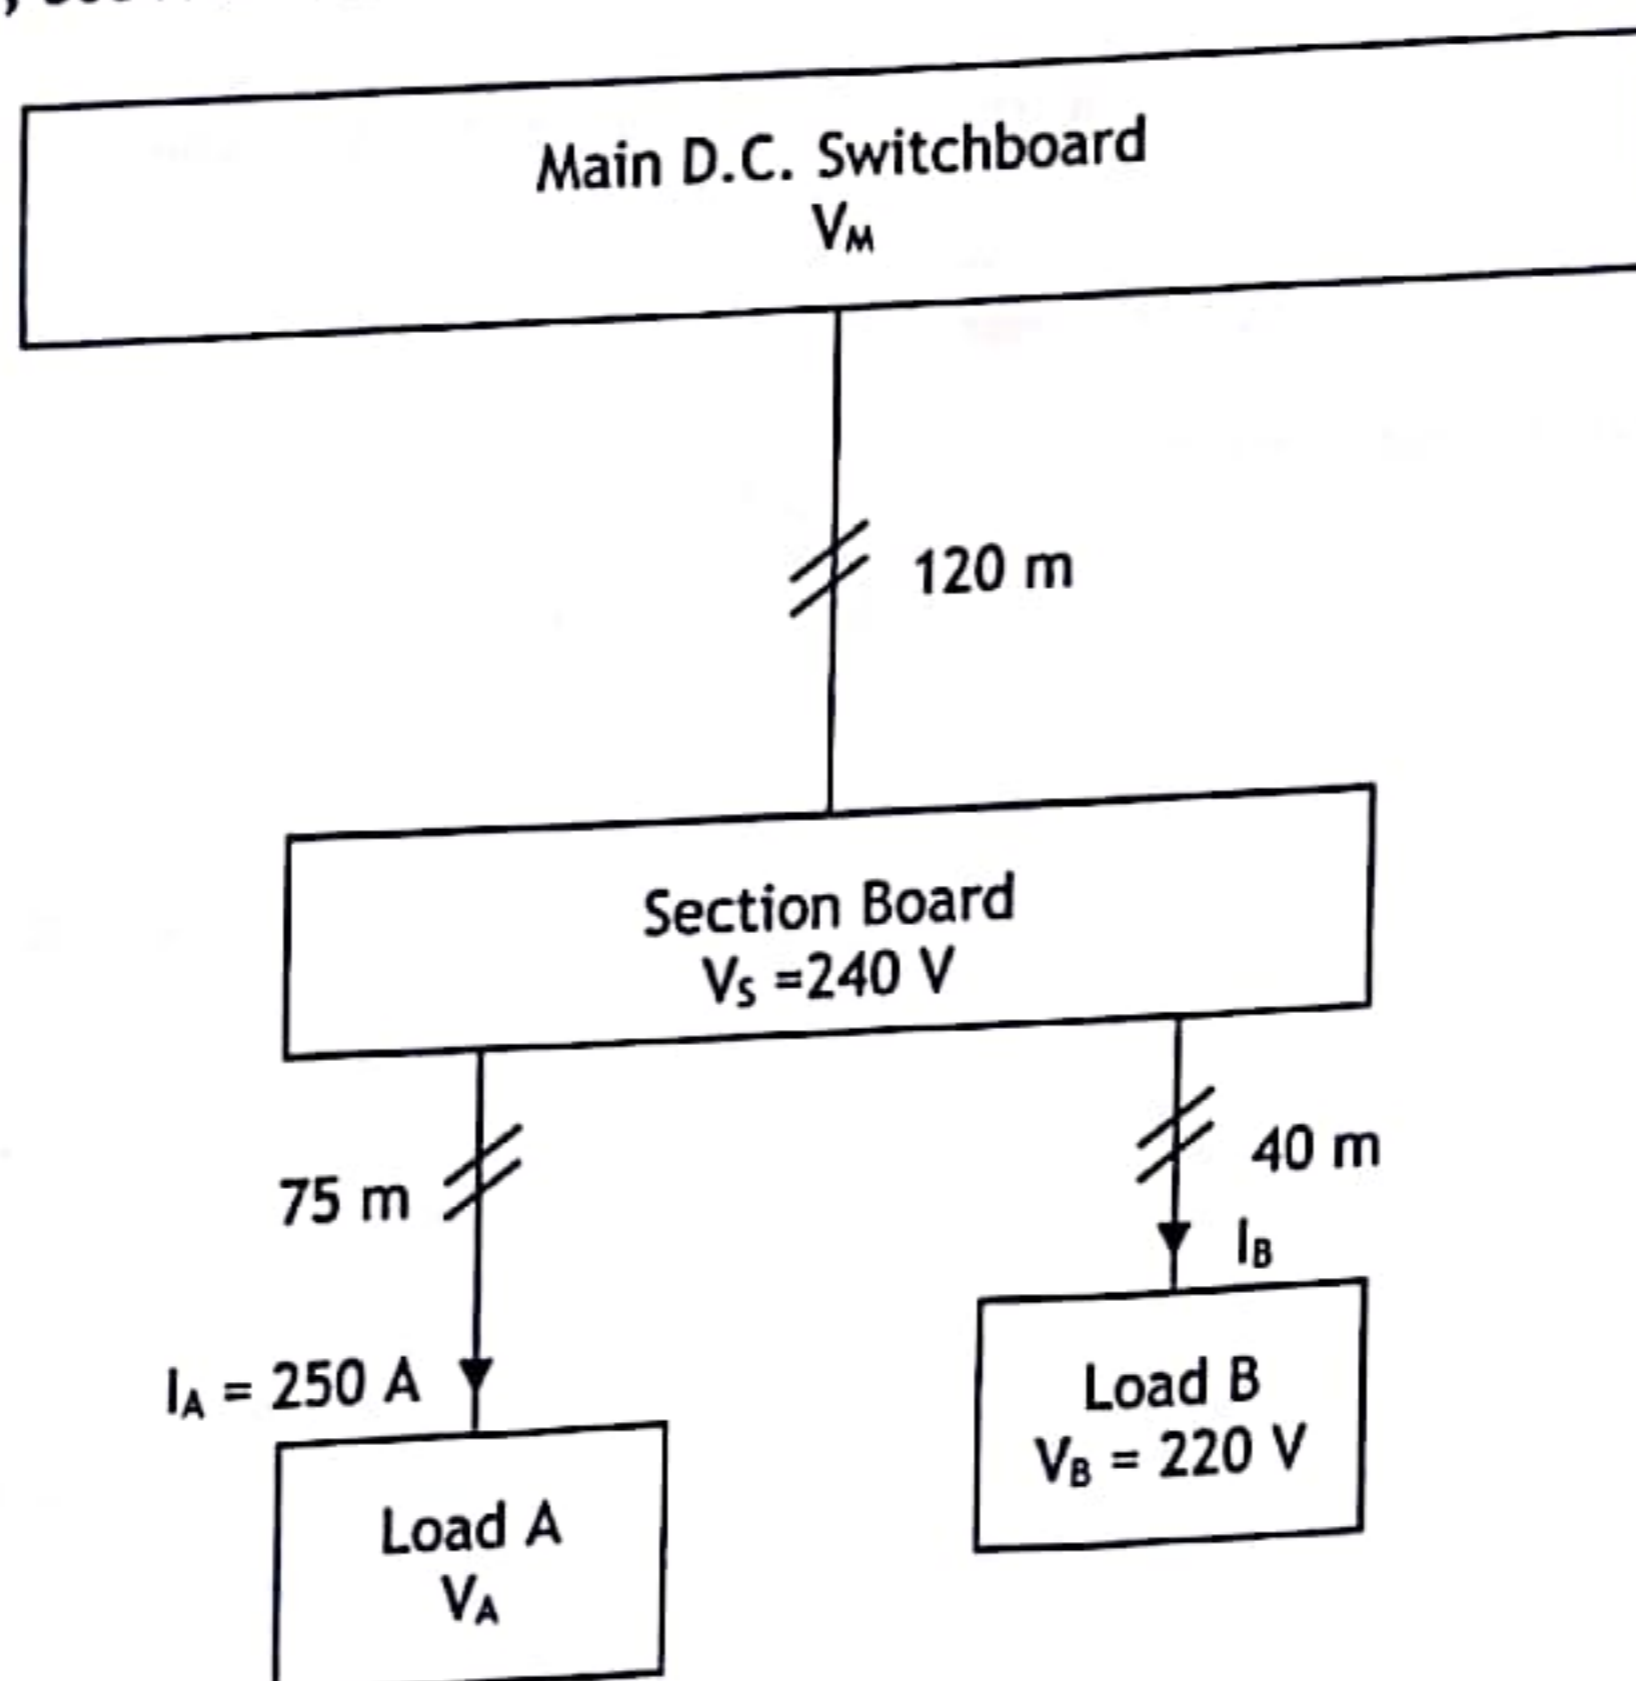

Fig Q1
1. Fig Q1 shows a d.c. distribution system. The main feeder cable has a resistance (go + return) of  $1.3 \times 10^{-3} \Omega/m$ , and the load cables have a resistance (go + return) of  $2.5 \times 10^{-3} \Omega/m$ .